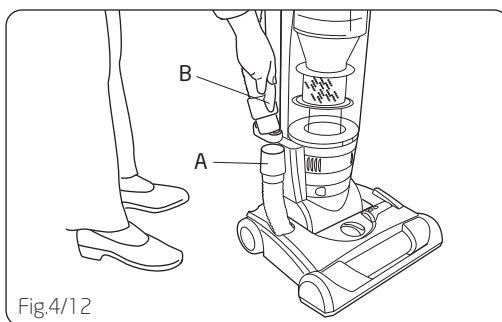

Fig.4/12
To use hose, lift hose end (B) as shown (Fig.4/12).